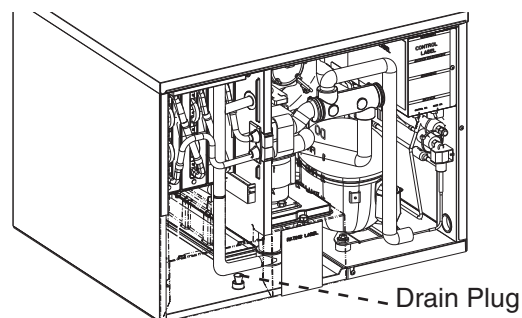

Fig. 25
2b)(1) For **KM-330_530_730MAK** - Remove the front insulation panel, then remove the water tank drain plug located in the bottom of the water tank. See Fig. 25. Allow the water tank to drain.